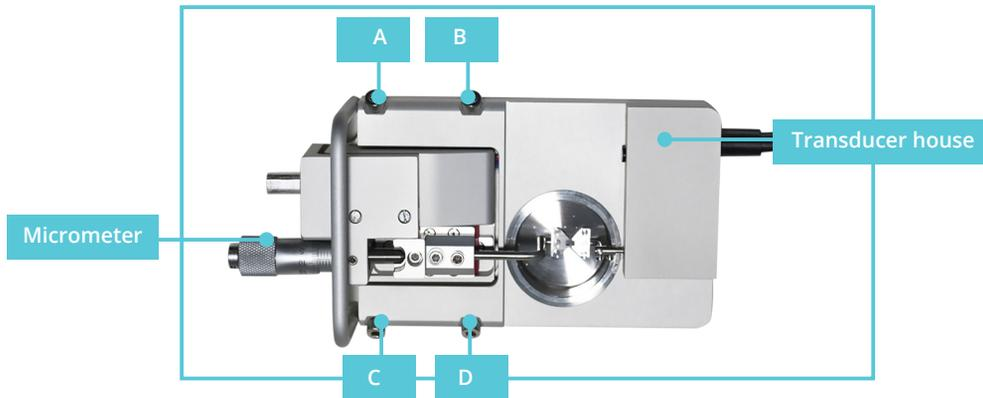

Figure 4.2 Fine adjustments of the jaws in the myograph chamber
4.1.3 FINE-ADJUSTING THE JAWS FOR SMALL VESSELS (FIGURE 4.2 AND FIGURE 4.3):